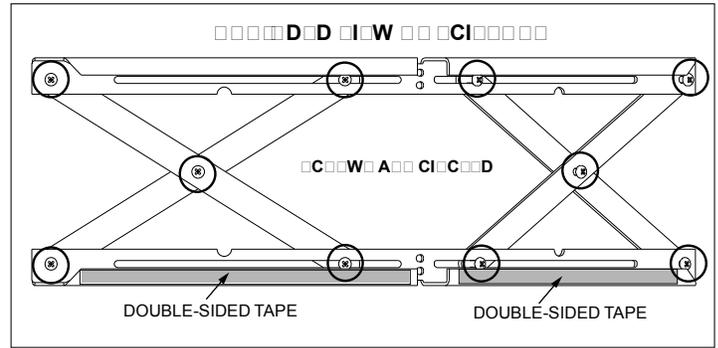

Figure 44.1
1. The 10 screws on each set of scissors will already be loose when shipped. Figure 44.1.